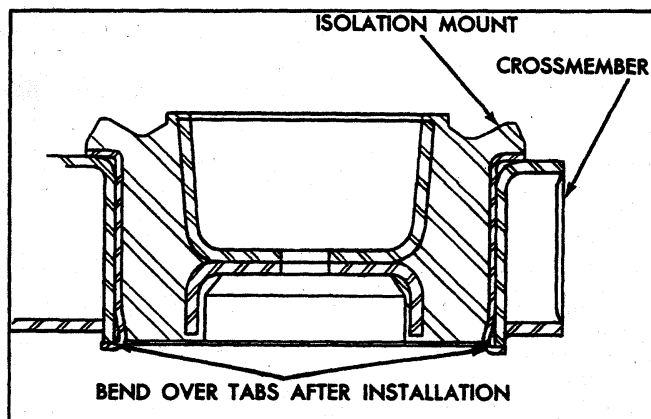

Fig. 70—Crossmember Mount Cross-Section (Corvette)
1. Bend back isolation mount tabs to allow mount removal (fig. 70).